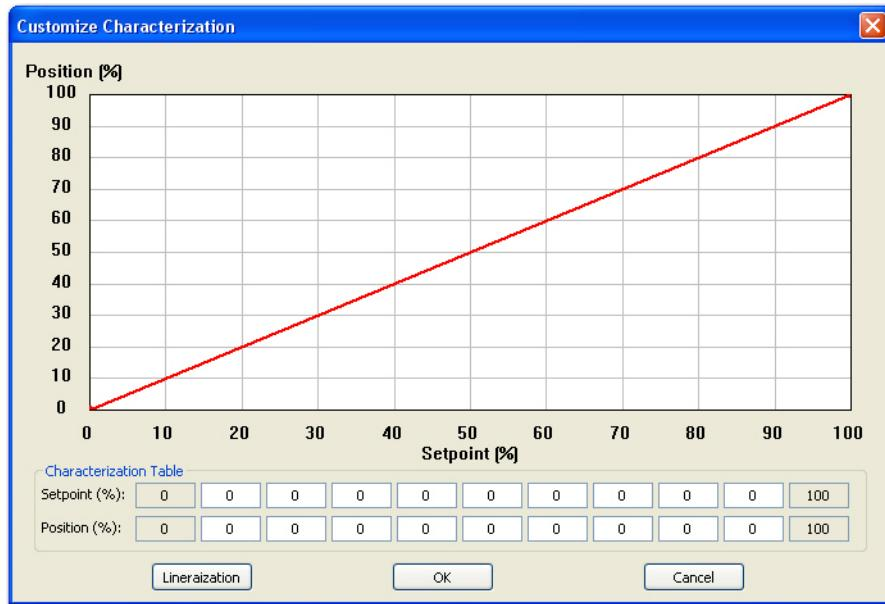

Figure 46 Custom Characterization Dialog
Click this and Figure 46 appears. Use this sub-screen to configure custom characterizations. See "Create a Custom Characterization" on page 84.
2. Click **Edit** and Figure 46 appears, along with the *Custom Data* field on the Options tab. The *Custom Data* field displays the data points once configuration is complete.